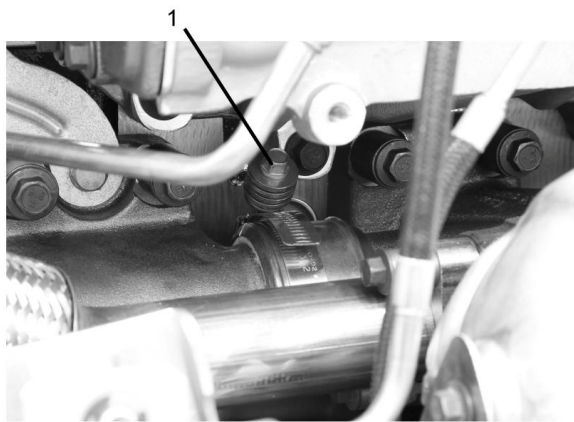

Figure 5: Rear Exhaust Manifold Ring Seal
11. If engine is equipped with an exhaust manifold ring seal, remove and discard (**Figure 5**, Item 1)